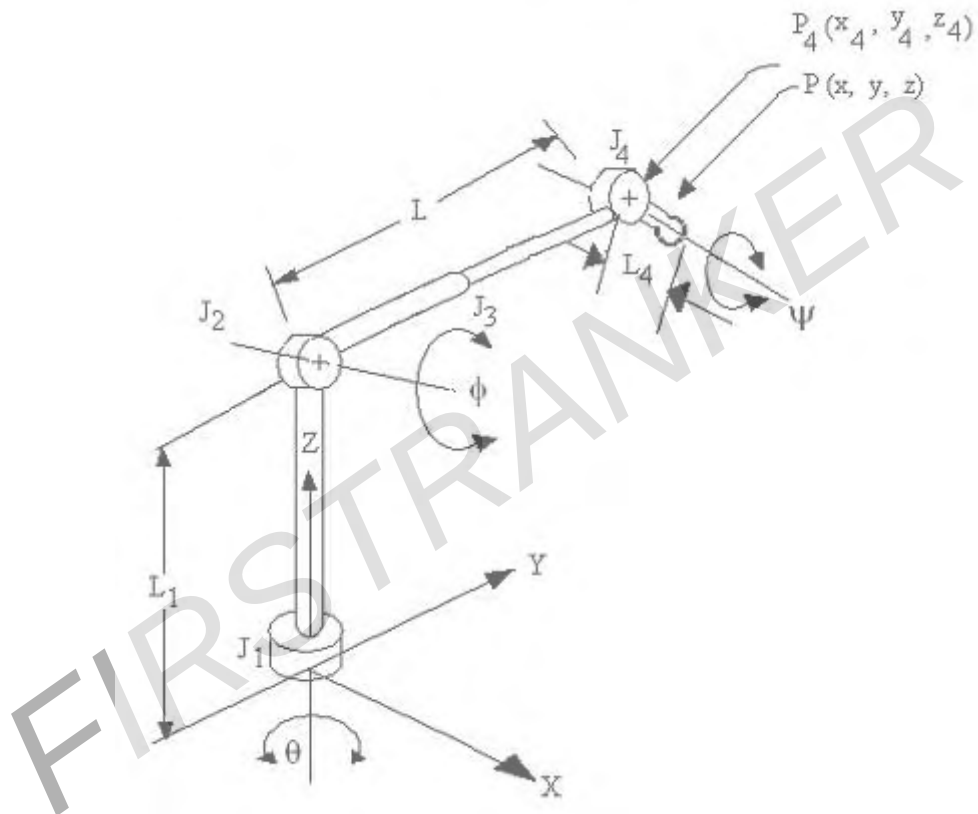

Figure 2a
8. (a) Consider the manipulator shown in figure 2a. Suppose the links and joints of the manipulator had the following settings: Length of the link $L_1=10.0\text{in}$, length of the extension link $L=15.0\text{in}$, length of link4, $L_4=3.0\text{in}$, Base angle $\theta=0^\circ$, Elevation angle $\Phi=20^\circ$, pitch angle $\varphi=34^\circ$. Determine the coordinates of the resulting point P at which the end-of-arm would be located. [8+8]